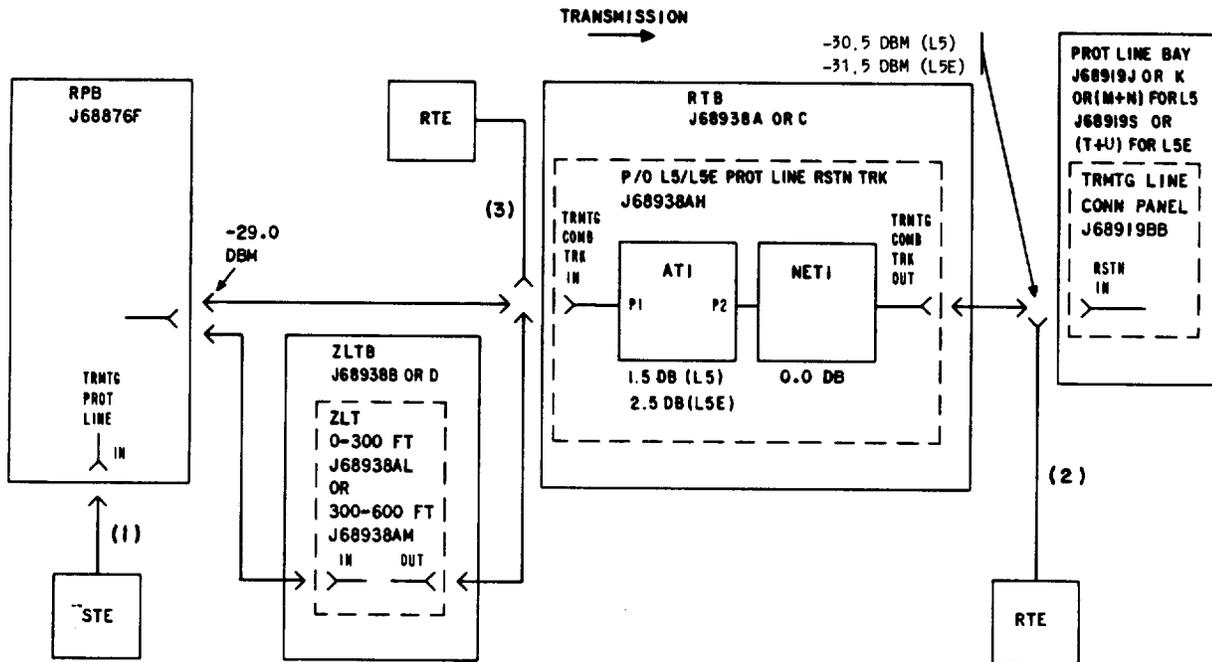

Fig. 8—L5/L5E Protection Line Transmitting Combining In Restoration Trunk Circuit
4	Connect the STE to the TRMTG PROT LINE IN jack at the RPB (J68876F) [Fig. 8, patch (1)].
5	Remove cable from the RSTN IN jack located on the back of the TRMTG LINE CONN PANEL at the PROT LINE bay. Connect RTE to the cable [Fig. 8, patch (2)].
- 9 Remove cable from the TRMTG COMB TRK IN jack at the L5/L5E PROT LINE RSTN TRK unit (J68938AH) in the RTB and connect cable to the RTE [Fig. 8, patch (3)].
21	Remove cable from the RSTN IN jack located in back of the TRMTG LINE CONN PANEL at the PROT LINE bay. Connect RTE to cable [Fig. 8, patch (2)].
34	Remove the STE from the TRMTG PROT LINE IN jack in the RPB [Fig. 8, patch (1)].
35	At the PROT LINE bay, remove cable from the RTE and restore to the RSTN IN jack on back of the TRMTG LINE CONN panel [Fig. 8, patch (2)].